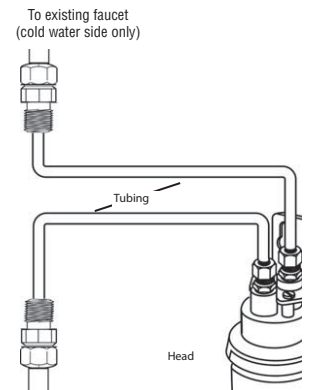

Figure 9
9. Cut two lengths of 3/8" soft copper tubing and bend to shape as shown. Bend tubing to form gentle curves rather than sharp bends. (Figure 9)